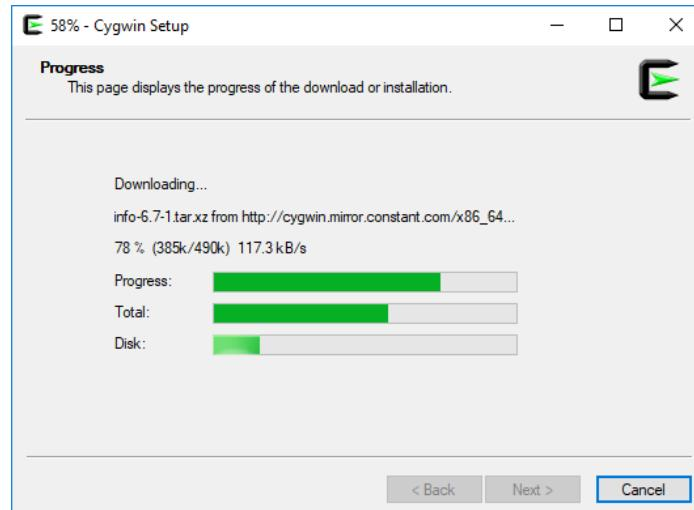
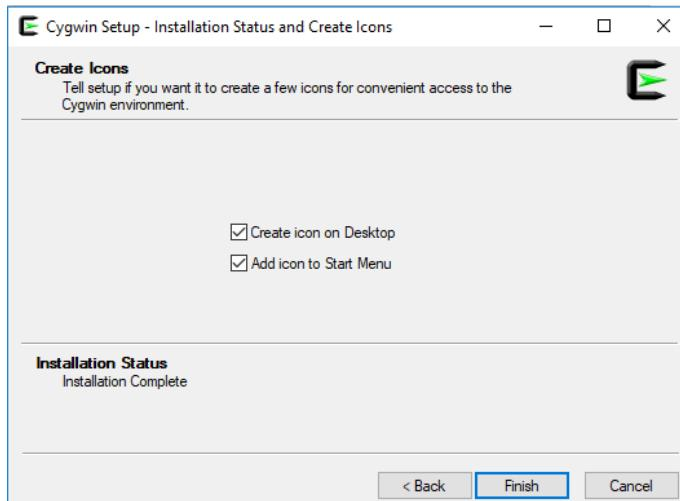

Figure 108. Cygwin setup
Figure 109. Finish the installation
5. Once you have selected the nine packages, click **Next** in the subsequent windows to include these packages in your Cygwin installation (the installation process, see Figure 108, may take several minutes) and finalize the installation by clicking **Finish** (Figure 109).